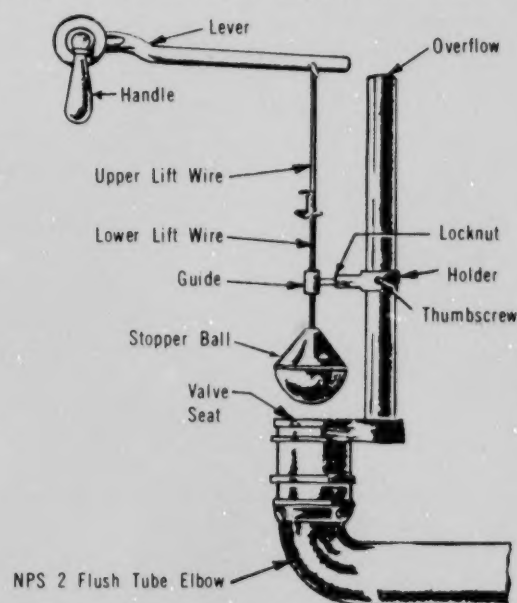
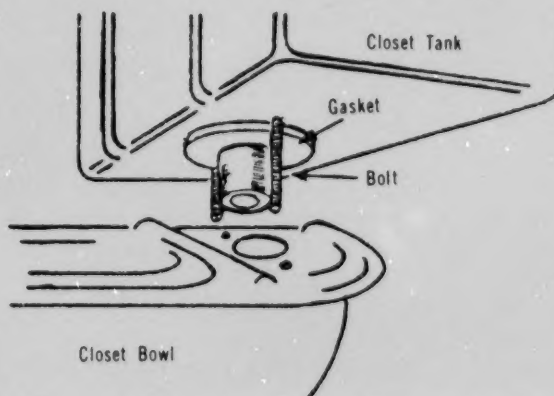

Figure 23-18. Flushing Mechanism
Figure 23-19. Close-Coupled Tank and Bowl
57. Figure 23-18 shows the flushing mechanism for the water-closet tank. Again, it is emphasized that all flush valves are not the same.
58. The flush elbow shown in Figure 23-18 is not required when a close-coupled tank and bowl are installed, as shown in Figure 23-19.
a) Stop the inflow to the tank by holding up the float ball, then drain the tank by raising the rubber stopper ball. (See Figure 23-18.)